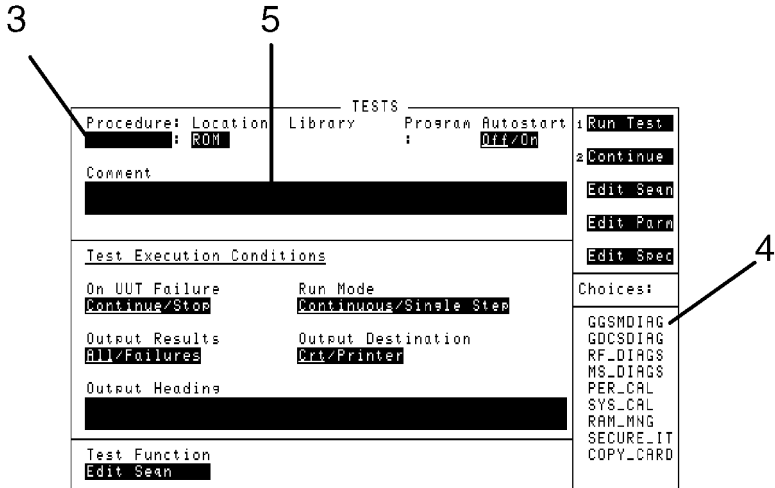

**Figure 8-2 Loading a Test Procedure**
- 1 Press the front-panel **TESTS** key and select the **Location** field. Refer to item (1), see Figure 8-2 on page 8-12.
- 2 Choose the location (Card, ROM, RAM, or Disk) where the Test Procedure is found. Refer to item (2), see Figure 8-2 on page 8-12. (The location you select appears in the field (1) area.)